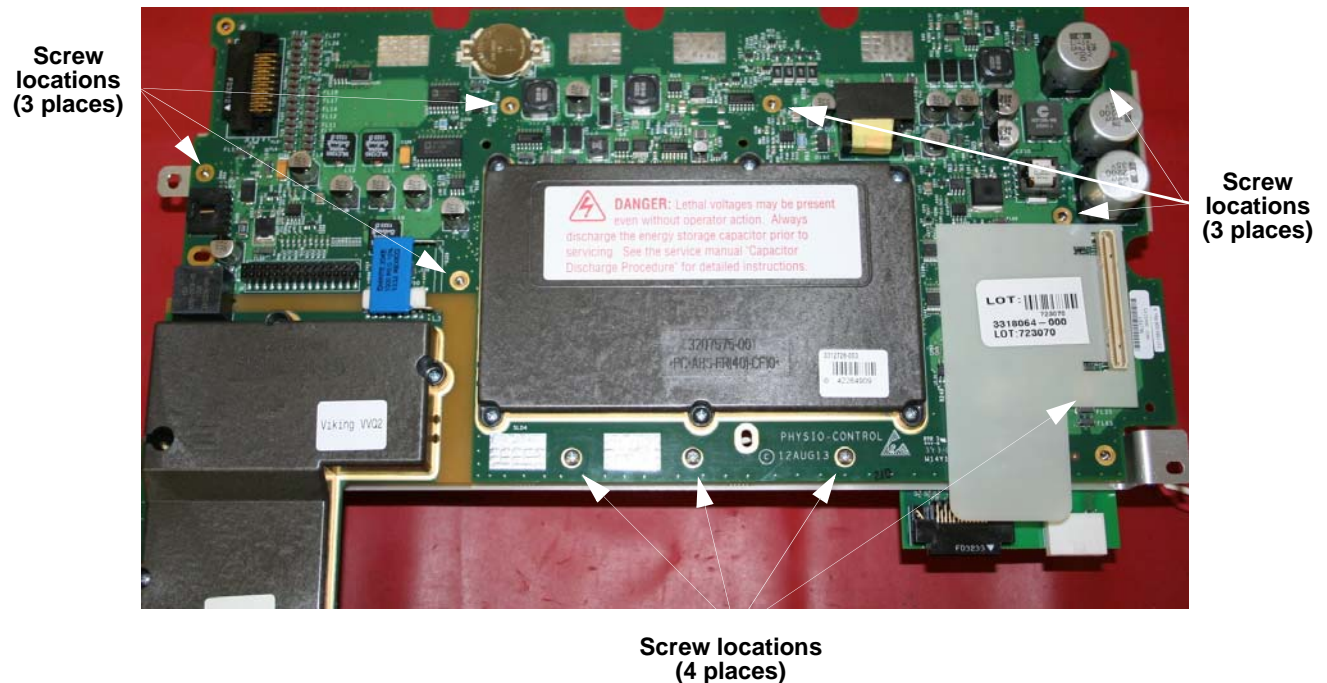

Figure 8.42—System/therapy PCB screw locations
4. Fasten with ten new screws (REF 21300-001038); torque to 6.8 in-lb (see Figure 8.42 on p. 243).